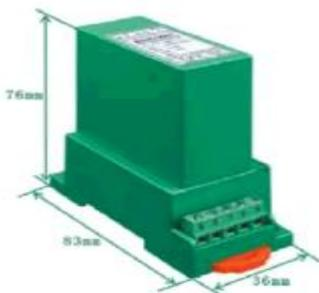
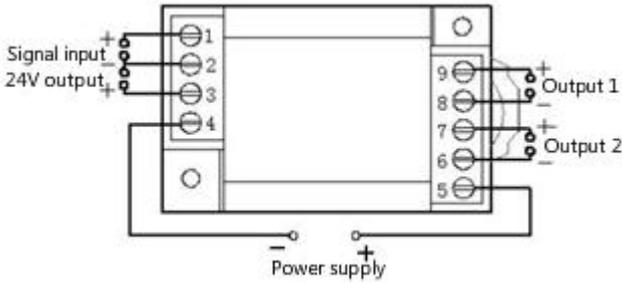

Figure1 MS3 style
Figure 4 IZ28/VZ28 connection diagram
- ① The transducer fixed on the side of the card slot and hook on the mounting rail;
- ② Pull the spring pin down (as show in the bottom of figure1 the red spring pin);
- ③ Clip the transducer mount on the mounting rail;
- ④ Release the spring pin and clip the transmitter on the mounting rail.
- ①M3 screw hole in the fixed plate according to the screw hole position shown in Figure 4;
- ②Use the M3 screw to insert into hole and fix it.